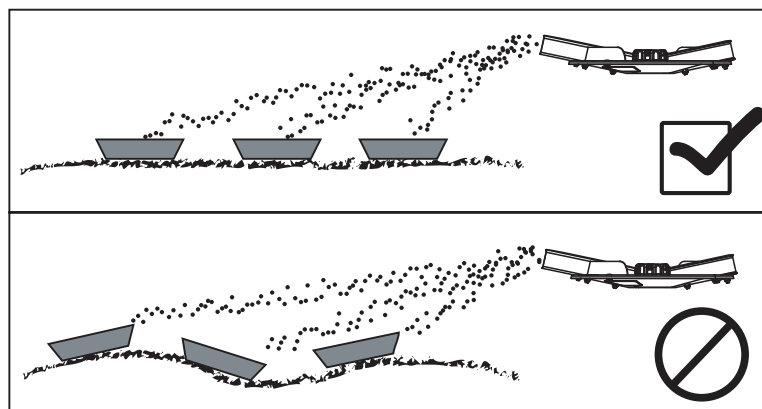

Figure 7.20: Layout of the catch trays
- Set the trays horizontally. Slanted trays may cause measurement errors (figure 7.20).